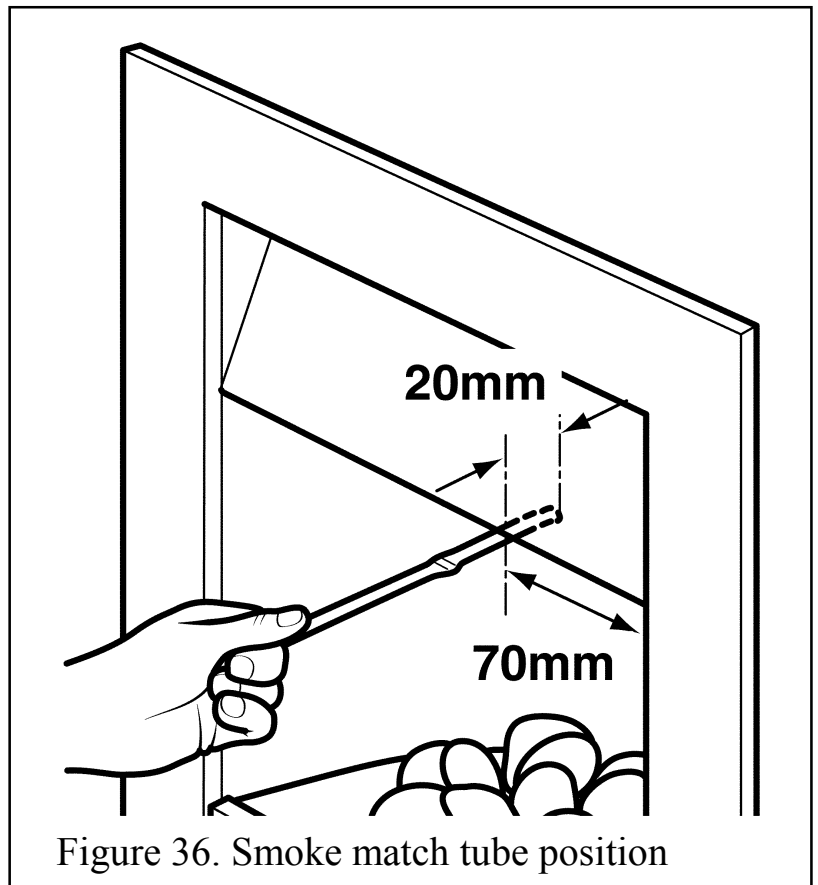

Figure 36. Smoke match tube position
4. The smoke match should be placed horizontally into the hotbox at the right hand side. (See figure 36).